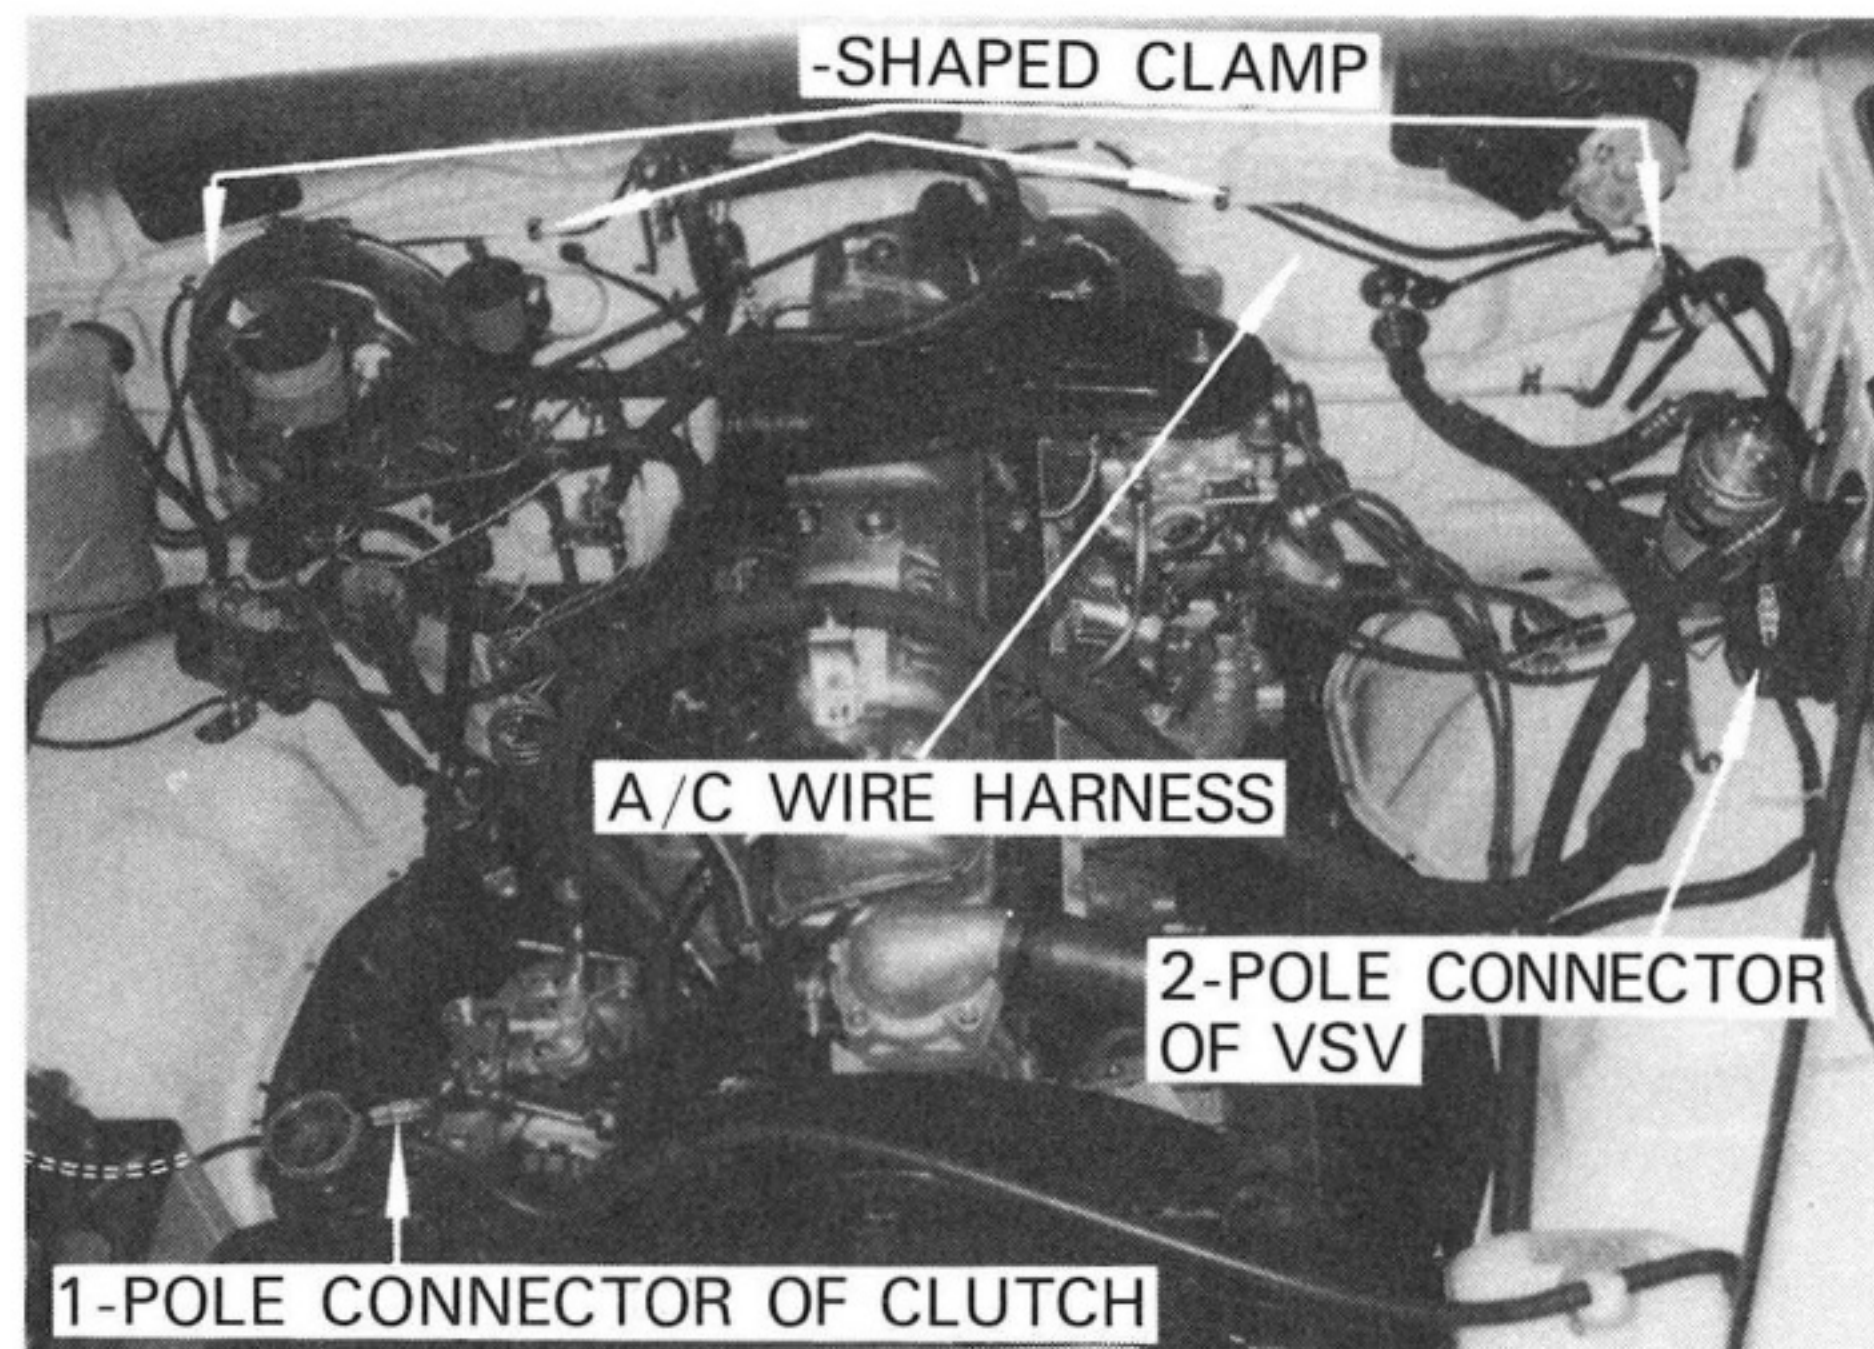

Fig. 39
- A) Route the A/C wire harness along the chassis as show in Fig. 39.
- C) Fasten the wire harness using clamps provided in a kit and original clamps. See Fig. 39.